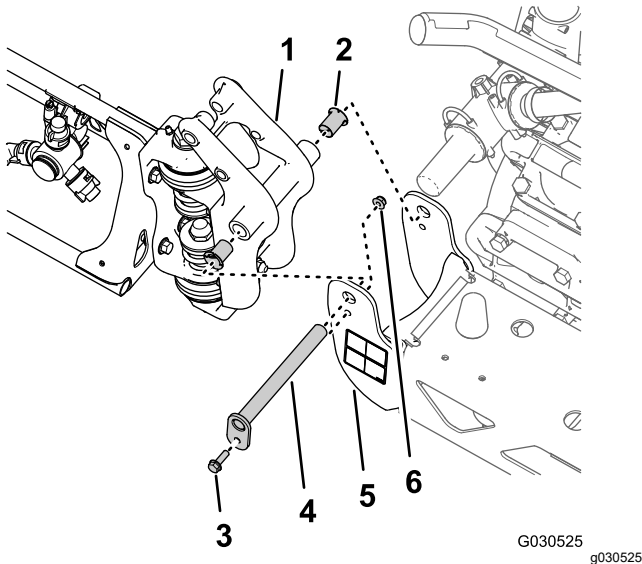

Figure 46
1. Remove the flange bolt (5/16 x 1 inch) and flange locknut (5/16 inch) securing the pivot pin to the pivot bracket (Figure 46).
2. Remove the pivot pin from the pivot bracket for the center-spray section and the pivot fitting for the outer-spray section (Figure 46).
3. Separate the outer-spray section from the center-spray section and remove outer section from the machine (Figure 46).
4. Remove the 2 nylon-flange bushings from the pivot fitting of the outer-spray section (Figure 46).